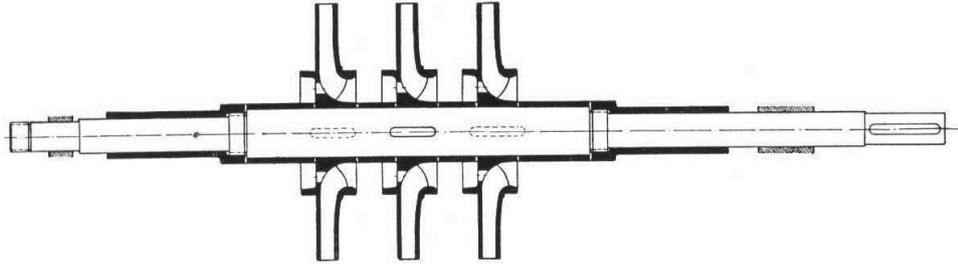

Fig. 5 - Rotor
The shaft (210) is protected inside the pump against attack by the fluid pumped by means of spacer sleeves (525.1/2) and stage sleeves (521). The stage sleeves also serve to locate the impellers axially on the shaft. The shaft (210) is protected by the shaft protecting sleeves (524.1/2) in the region of the shaft seal. These protecting sleeves are screwed onto shaft (210) by means of screw threads with opposed hand to the direction of rotation of the shaft. In order to balance the axial thrust, throttling passages are arranged at the impeller necks at the suction and discharge end of each impeller, and additional balance holes are provided in the impeller cheeks at the discharge end (see Fig. 5).